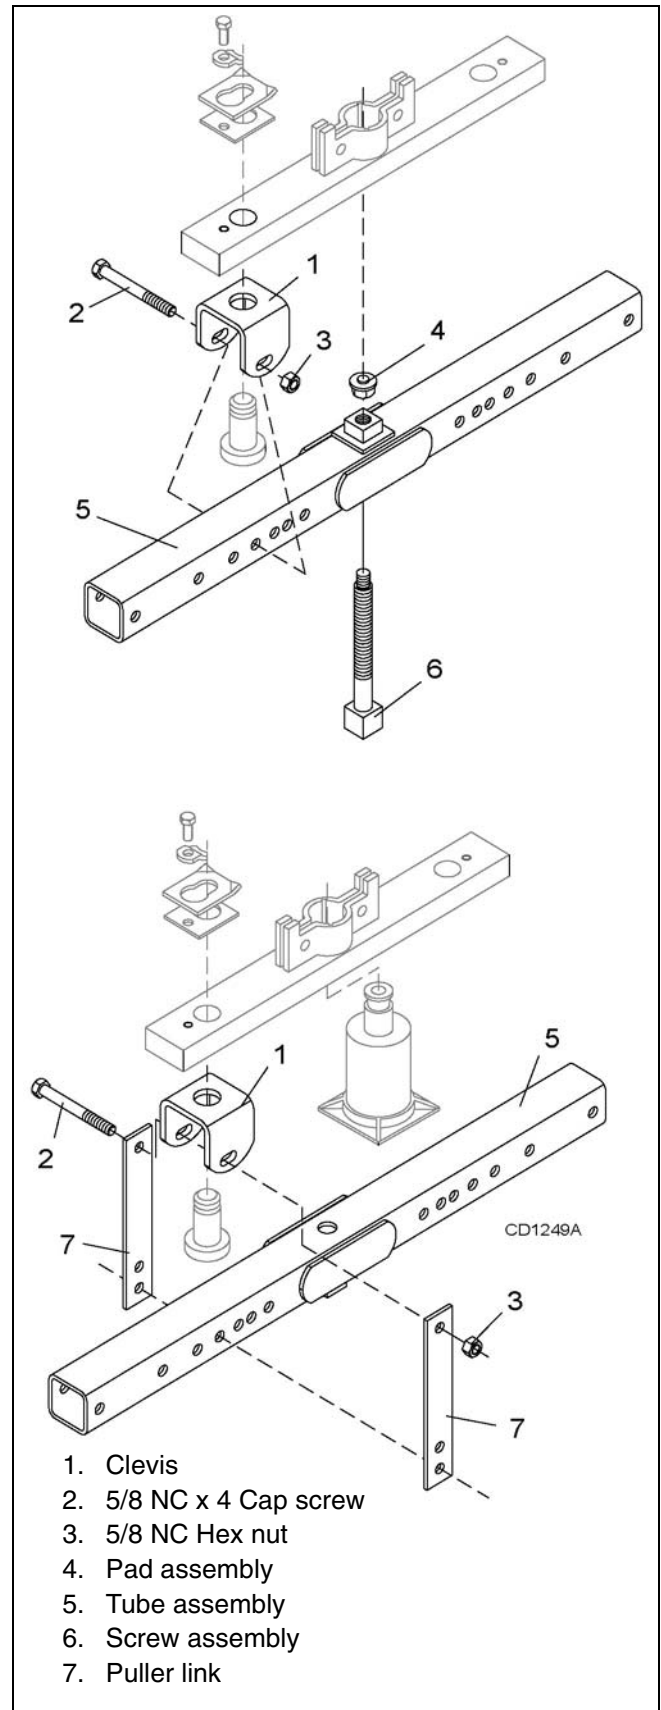

Figure 23. Crossbar Removal
NOTE: You will need to use either the puller screw (Item 6, Figure 23) or a small hydraulic jack to remove the crossbar.
3. Remove cotter pin (38) and castle nut (37) from bottom of crossbar.
4. **Refer to Figure 23.** Attach a clevis (1) to each end of crossbar, using blade pins, spacers, keyhole plates, and blade pin clips.
5. Position tube assembly (5) with threaded nut toward crossbar for puller screw removal or down for hydraulic jack removal.
6. For removal with puller screw, attach tube (5) to each clevis with screws (2) and nuts (3). Place pad (4) in nut and thread puller screw (6) into nut from bottom. Tighten until pad is solid against gearbox shaft. For best results, strike head of puller screw with a hammer while tightening with a wrench.
7. For removal with a jack, attach tube to each clevis with puller links (7), screws (2), and nuts (3). Place jack on tube with end of jack pressing against gearbox shaft. Slowly apply force with jack.